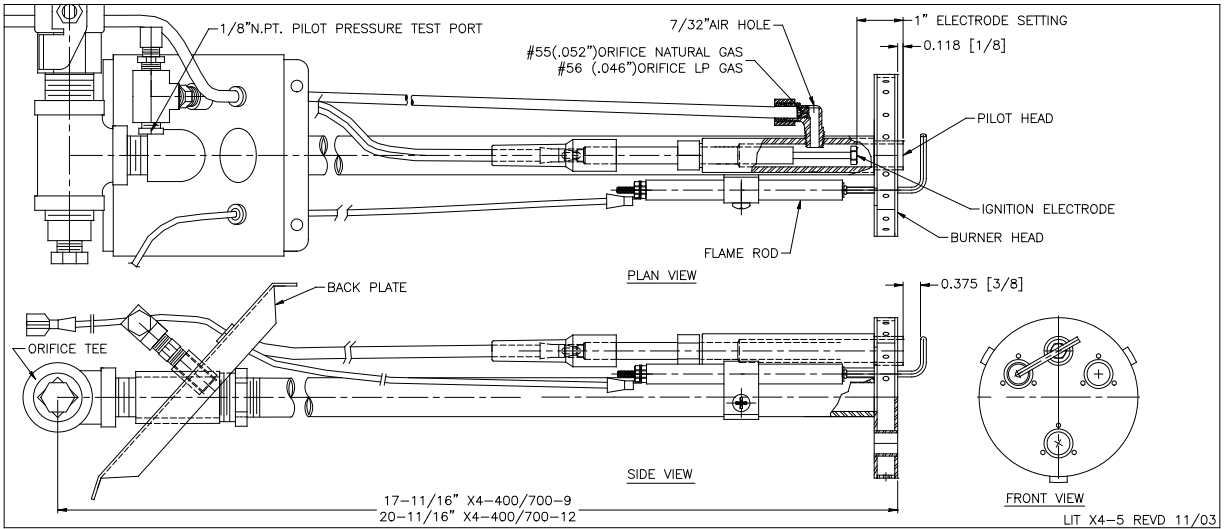

Figure 7: Pilot/Gun Assembly – Flame Rod Type – Natural Gas/LP Gas
- 7.10.1 Before attempting burner start up, make certain that you are familiar with the operation of the Primary Safety Control and other components being used on this specific application. **Refer to Fig. 7 and 8.**